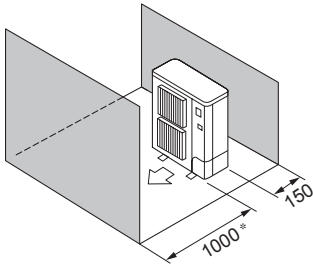

Fig. 2-7
- ⑤ Obstacles at front and rear (Fig. 2-7)